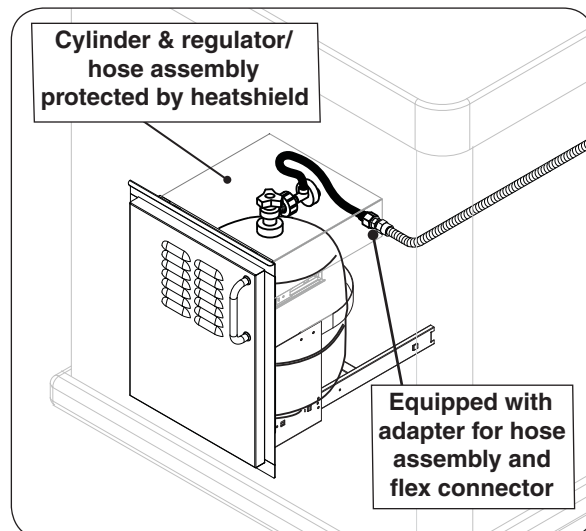

Fig. 12-3 Optional Fire Magic door w/tank tray
- **Fire Magic offers a propane cylinder door with tank tray to meet the cylinder install requirements. See Fig. 12-3.**